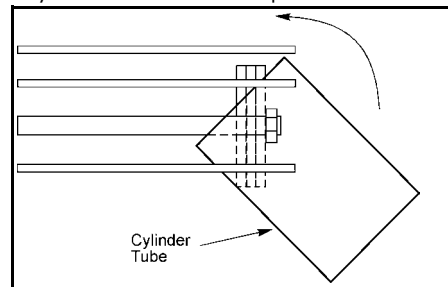

Figure 2 – Cylinder Tube Installation
8. Lubricate the inside of the cylinder tube and slide the cylinder over the piston. On cylinders with 6" and larger diameter, start the cylinder at a 45 degree angle to the piston as shown in Figure 2. (It will be necessary to remove several cylinder tie rods to provide clearance.)